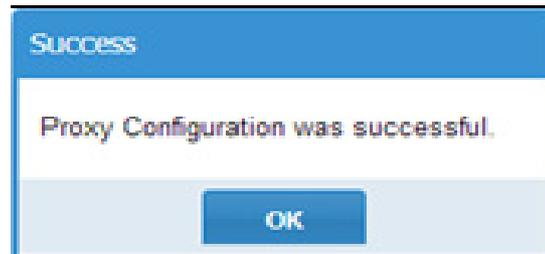

Figure 42 Clicking OK
- In the confirmation message window, click **OK**, as shown in Figure 42 on page 43. The window closes.